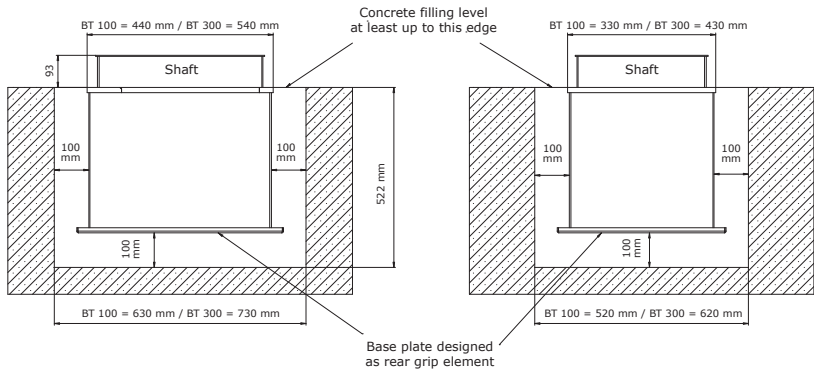

Figure 1: Floor opening for installation of floor safes
- As the floor safe needs to be surrounded on all sides by a concrete layer at least 100 mm thick, the recess in the floor must be at least 100 mm larger all round than the external dimensions of the safe (see Figure 1).